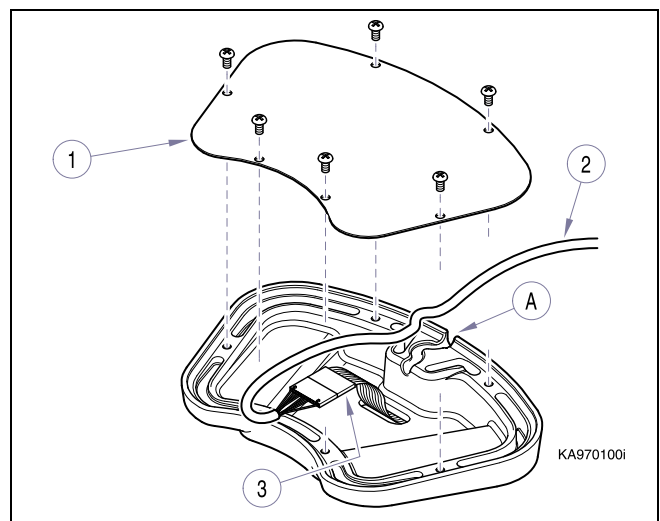

Figure 4-27. Foot Switch Control
- (4) Remove restraint bracket (7), from chair base and then remove cable (4) from bracket and strain relief bushing (6).
- (5) Remove bottom plate (1, Fig. 4-27), on foot-switch control.
- (6) Disconnect cable (2) from foot switch connector (3) and remove cable.
- (1) Connect cable (2, Fig. 4-27) to foot switch connector (3).